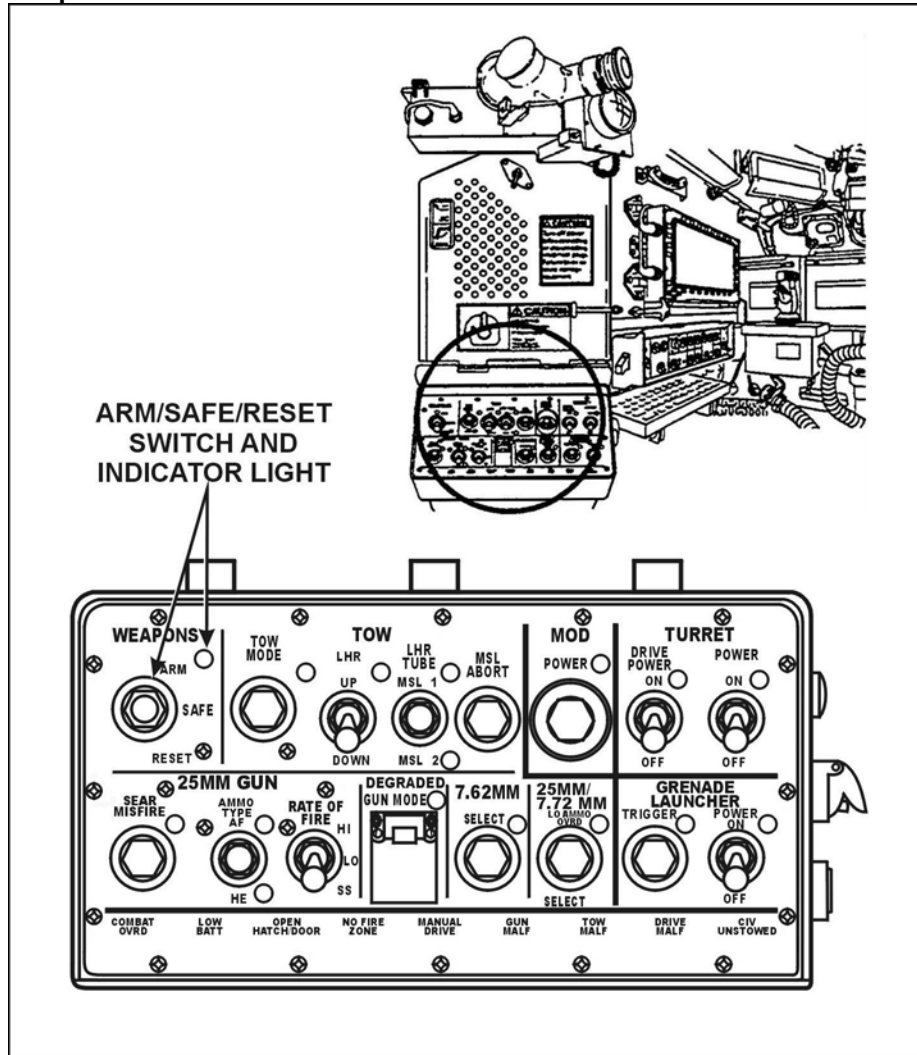

Figure 2. AMMO-SAFE-RESET switch.
- b. Select the desired rate of fire by moving the rate of fire toggle switch to either single shot (SS), low (LO), or high (HI). (HI rate is the preferred rate of fire.)
- d. Move the ARM-SAFE-RESET switch to ARM (Figure 2).